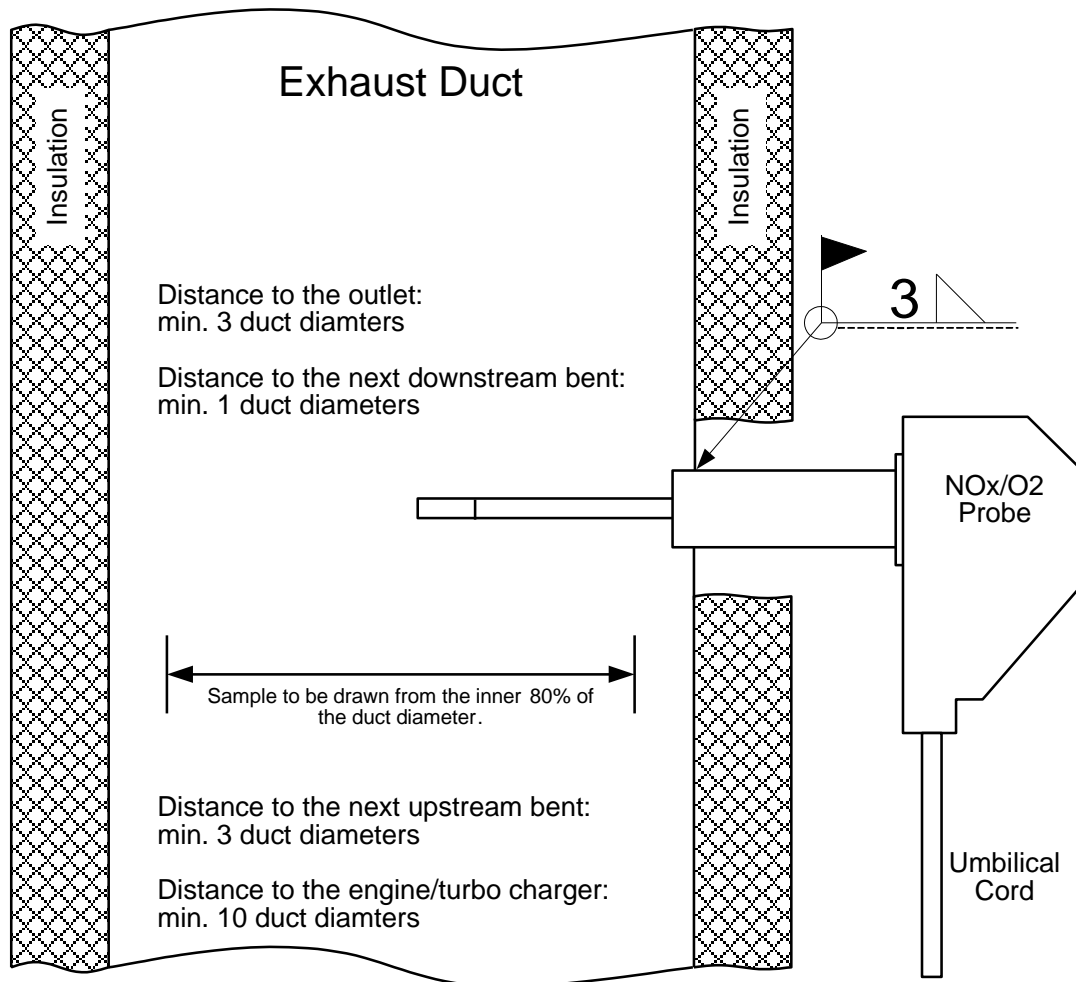

Figure 3-1: Installation layout of the ejector probe
- The ejector probe shall be fitted at least 10 pipe diameters after the outlet of the engine, the turbocharger, or the last after-treatment device – choose whichever is further downstream. However, the ejector probe shall also be placed at least 0.5 m or 3 pipe diameters upstream from the exit of the exhaust gas system – choose what provides the greatest length. See Figure 3-1 for the installation layout of the ejector probe. If you find it difficult estimating where to install the ejector probe, please contact Green Instruments A/S for more instructions.
probe protection house mounted in a vertical position of the stack. The insert length of the ejector probe (250-300 mm) should be greater than 10 % of the duct diameter. See Figure 3-1 for the installation layout of the ejector probe.